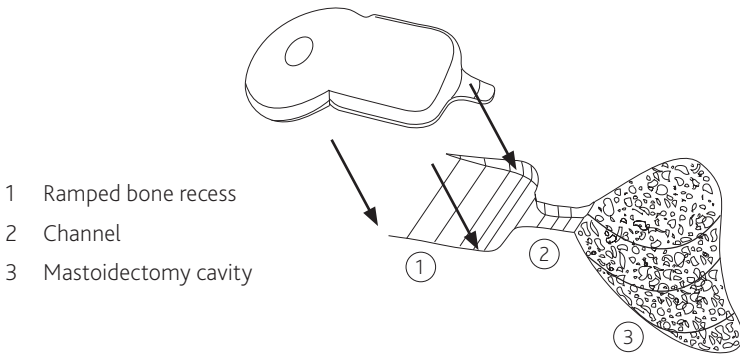

Figure 13: Ramped bone recess, electrode channel and mastoidectomy
5. Drill a channel to connect the bone recess and mastoid cavity (see Figure 13). The channel will help protect the electrode against trauma.